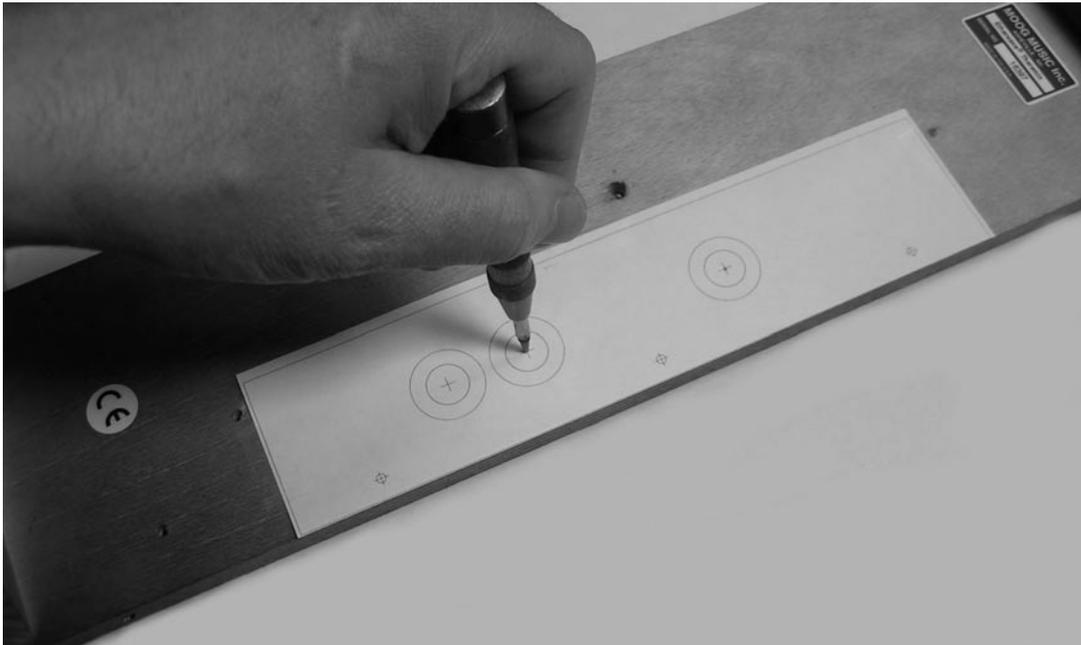

figure 2
- 1) Find the drill template at the back of this manual. Align the drill template on the bottom of the cabinet according to the instructions on the template. (see figure 2)
- 2) Mark the holes to be drilled with a center punch. (see figure 2)